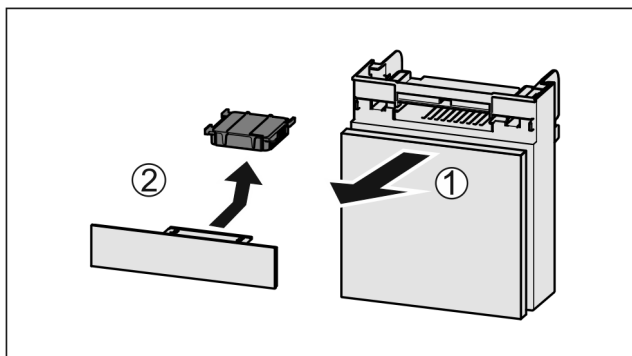

Fig. 209
- Pull out the compartment Fig. 209 (1).
- Remove the carbon filter Fig. 209 (2).